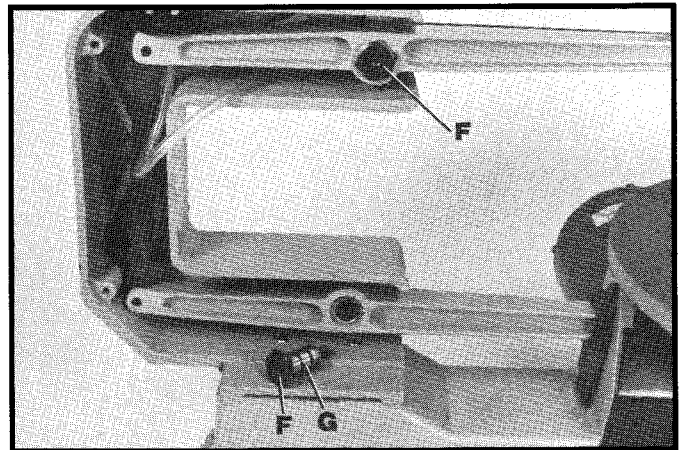

Fig. 43
6. Thoroughly clean grease from shafts (G) Fig. 43, of both pivot bolts (F) and lubricate shafts (G) with a few drops of light machine oil.
7. Reassemble two pivot bolts (F) Fig. 43, to machine.